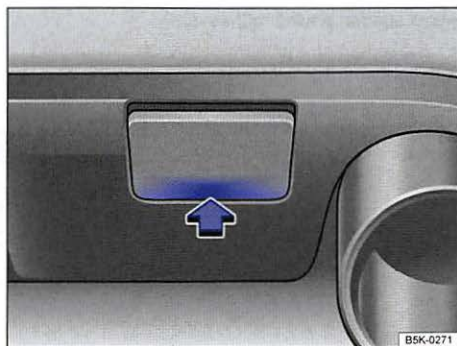

Fig. 181 In right rear bumper: Remove cover.
- Push on the cover at the bottom marking $\Rightarrow$ fig. 181 (arrow) so that it pops out.